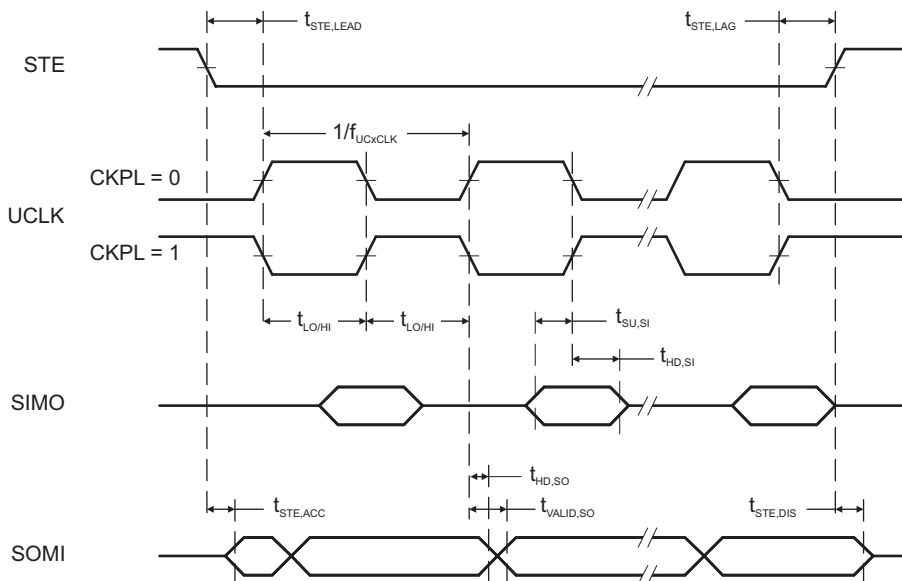
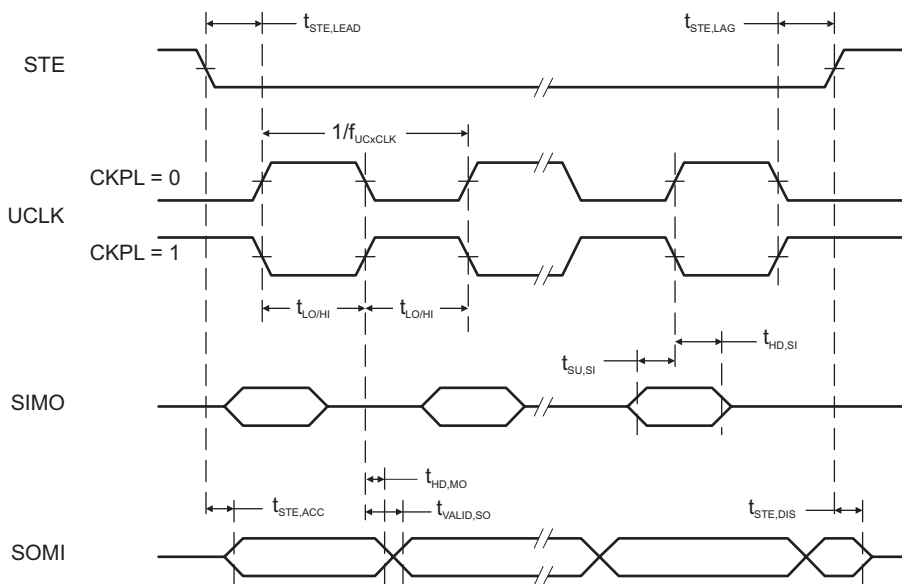

Figure 5-9. SPI Slave Mode, CKPH = 0
Figure 5-10. SPI Slave Mode, CKPH = 1
(see Figure 5-9 and Figure 5-10)
- (2) Specifies the time to drive the next valid data to the SOMI output after the output changing UCLK clock edge. See the timing diagrams in Figure 5-9 and Figure 5-10.
- (3) Specifies how long data on the SOMI output is valid after the output changing UCLK clock edge. See the timing diagrams in Figure 5-9 and Figure 5-10.